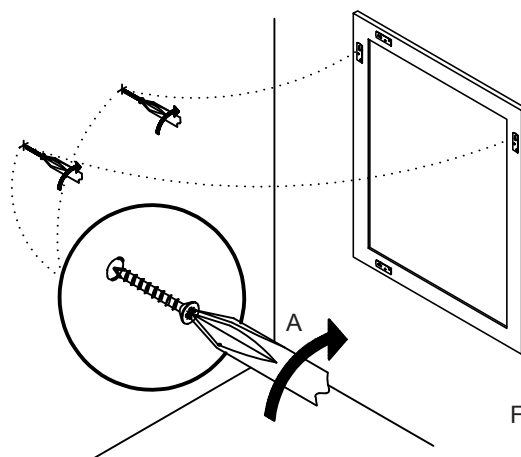

Figure 2
- 2) **If using wall anchors:** 1) Using a drill, create a hole in the wall for each wall anchor over the marked locations. 2) Insert (x 2) wall anchors (B). 3) Insert (x 1) 2" screw into each wall anchor. Figure 2. **If installing directly into wall studs:** Using a drill, insert (x 1) 2" screw into each marked location. Figure 2.
- 3) Hang the mirror on the screws using the mounting hardware preassembled to the mirror. Figure 2.